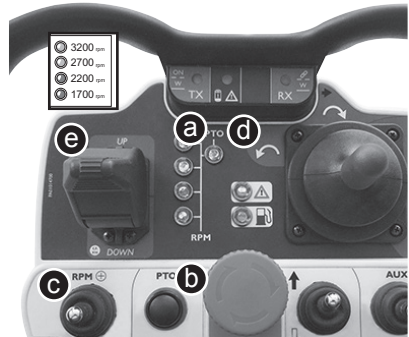

Fig 15
5.7 PTO (Mowing blade - switching ON) (Fig 15)
If the machine is in running order is now possible to start the mowing blade. The blade starting require a big energy, therefore it is provide a control to prevent the blade starting with a low engine speed. Adjust the engine speed by the throttle (c) over the 2800 rpm (green leds (a) - Fig 15). With the green light it is possible to start the PTO by pressing the button (b). The green led (d) shows that the cut blade is ON.